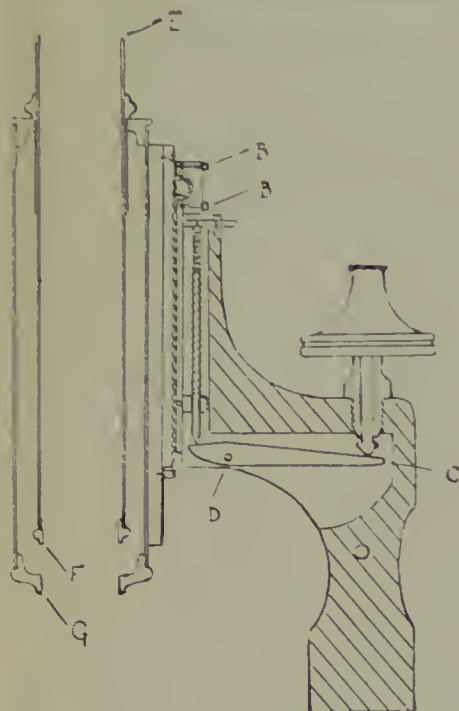

Fig. 8. Section of Limb of Edinburgh Student's Microscope, showing construction of Watsons' Standard Fine Adjustment, etc.
**The Standard Lever.** As will be seen from figure 8 the lever in this pattern is set horizontally. It has been made by us for the **past twenty years**, and it is at the present day generally admitted to be the most accurate, reliable and scientific in principle, of any now in use. It combines simplicity of construction with great delicacy of action, will not deteriorate with use, and is suitable for objectives of the highest power and aperture.
The principle of its construction is shown in Fig. 8. The whole body of the instrument is supported on the shorter end of a lever "C" contained in the limb of the stand. The long end rests against the point of a micrometer screw, which is actuated by a milled head. The spiral spring merely keeps the body pressed closely against the lever, and is a necessary part of all similar movements. It will be observed that the fulcrum "D" is as close as possible to the body, thus minimising the actual weight to be raised, by increasing the ratio between the two ends of the lever. Thus, in the Edinburgh Student's microscope, the arm on one side is  $\frac{3}{4}$  in. long, and on the other side  $1\frac{1}{2}$  in. The weight of the body to be lifted is 17 ozs. Therefore, the actual resistance amounts only to  $3\frac{1}{4}$  ozs. If the